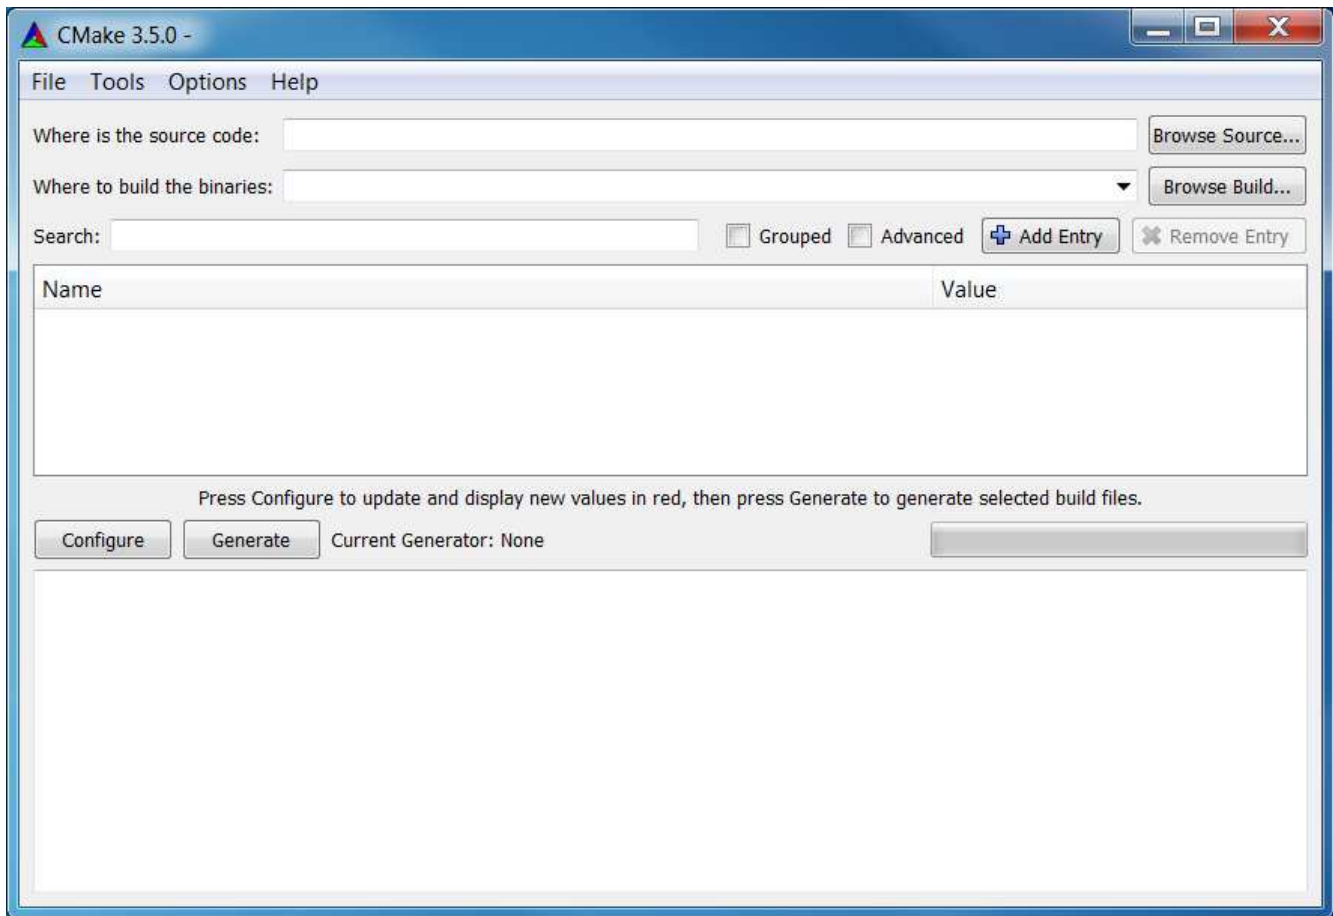

Figure 24. Default CMake GUI
4. When the GUI is first opened, it should look like Figure 24.